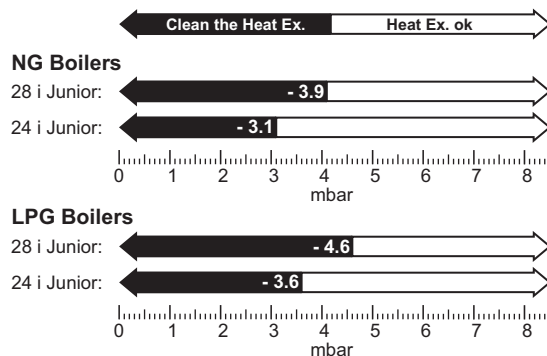

Fig. 79 Fan pressure readings
- The pressure will read negative, refer to the chart in figure 79.